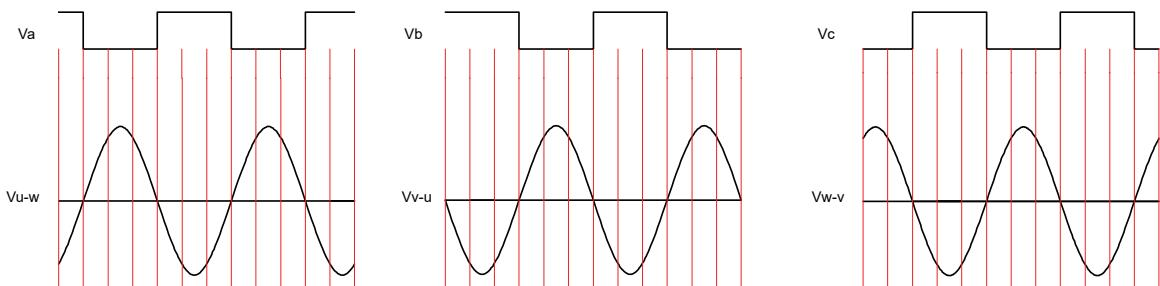
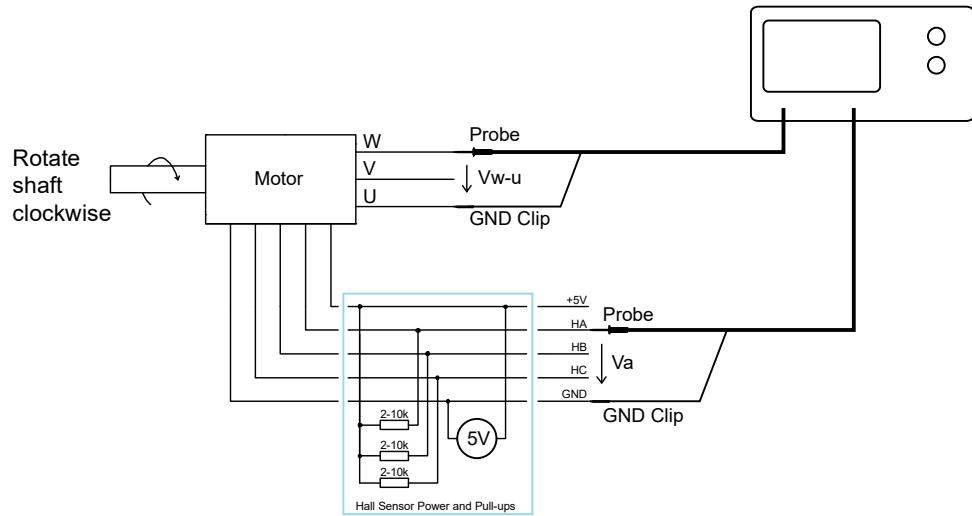

FIGURE 8-5. Relation between hall sensor and UVW windings
FIGURE 8-7. Use an oscilloscope and the circuit in figure to place the probes and generate these signals
V. See figure 8-5. The sine wave voltage will be inverted when turning the motor in the opposite direction.
The most precise evaluation of the Hall Sensors alignment is done using an oscilloscope and the circuit described in figure 8.7. Compare the shape of the Hall Sensor signal to this of the voltage that is generated on the motor phases as the shaft is rotated by an external force. Verify that the zero-crossing of the phase voltages is occurring at exactly the same time as the Hall Sensor transitions, as shown in figure 8-5.